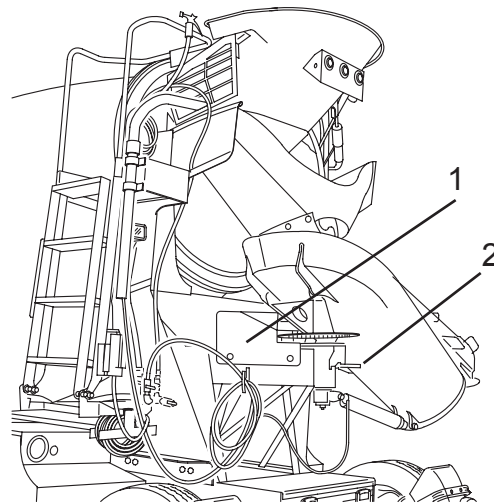

Figure 114
The hydraulic chute swing option (Figure 114, Item 1) allows the operator to move the discharge chute from the rear pendant.
1. Release the manual chute lock (Figure 114, Item 2).